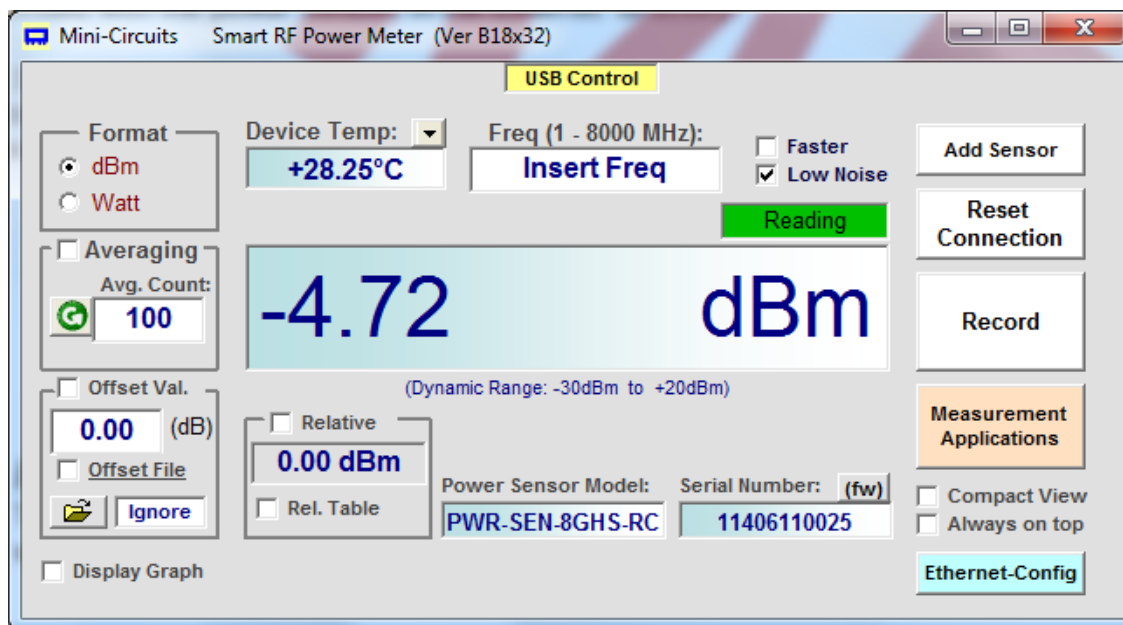

Figure 3.3: PWR Main Screen
The main screen provides a simple and easy-to-use interface for measuring RF power with the PWR power sensor (See **Fig 3.3**).
3.3.1 *Left Side of Screen (Fig. 3.3)*
3.3.2 *Top Center of Screen (Fig. 3.3)*
3.3.3 *Bottom Center of Screen (Fig. 3.3)*
3.3.4 Right Side of Screen (Fig. 3.3)